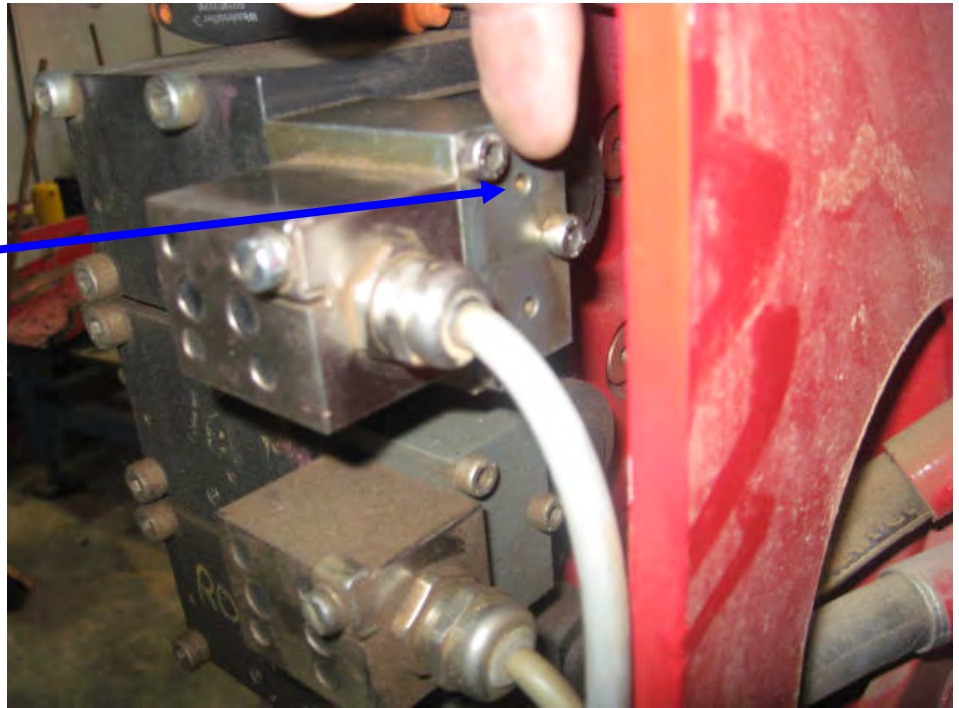

Figure 23
25. Once the automatic speed settings have been properly adjusted, manually extend and retract the tong assembly in the horizontal direction by pushing the top button on the electric operator to extend and the bottom button to retract (Figures 23 and 24).